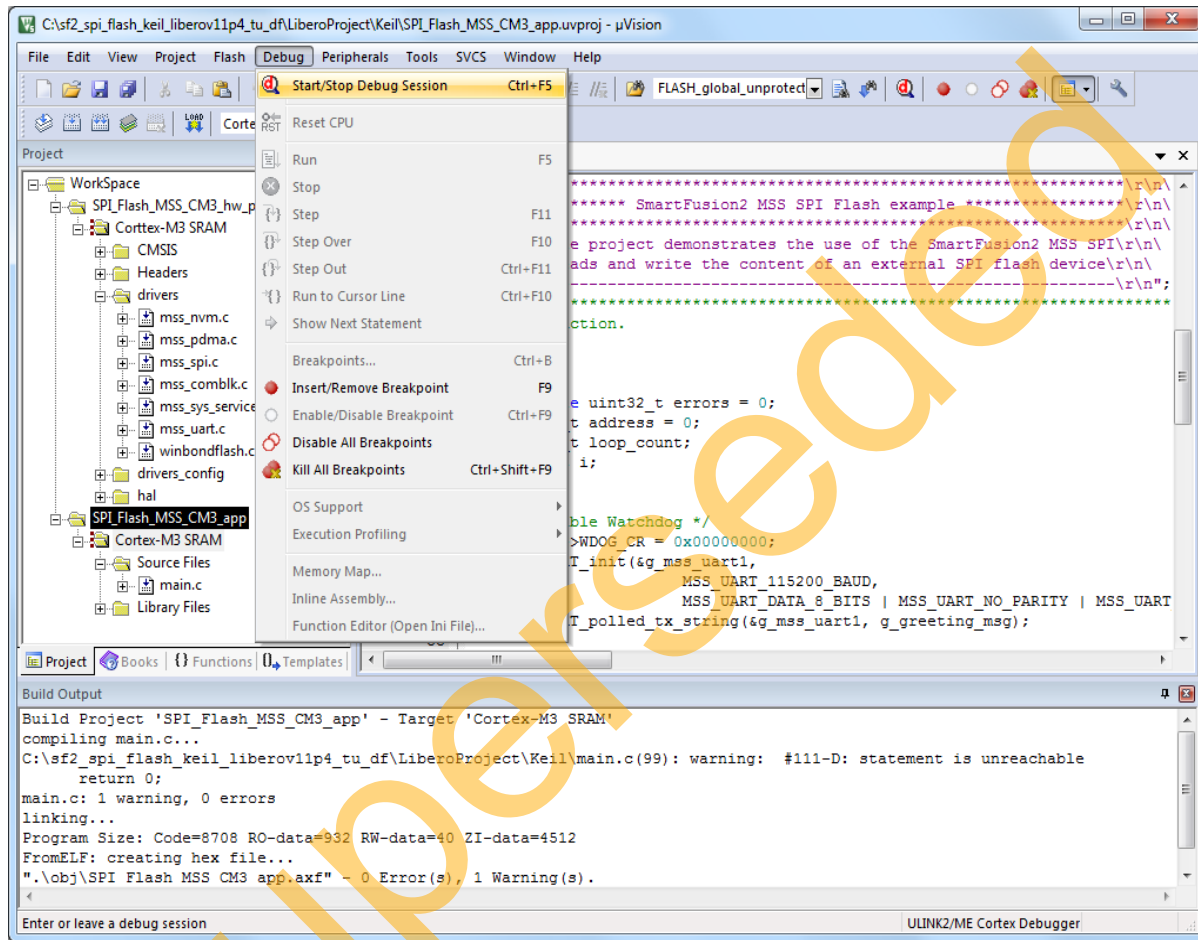

Figure 38 • Selecting Start/Stop Debug Session
1. Select **Start/Stop Debug Session** from the **Debug** menu in the uVision window to run it through the debug hardware as shown in Figure 38. The processor code will be downloaded to the SmartFusion2 eSRAM.